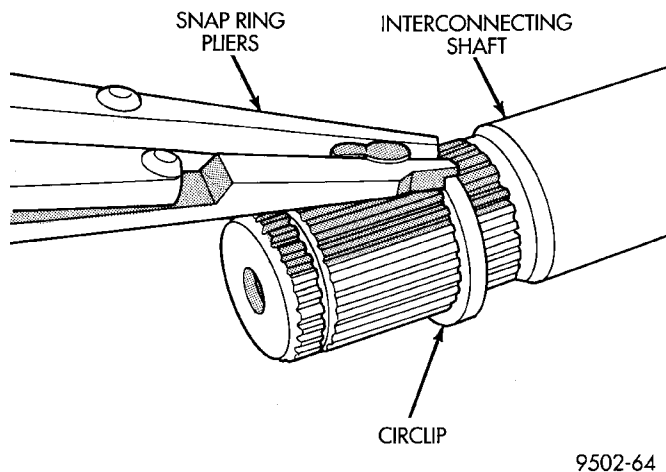

Fig. 46 Circlip Removal from Interconnecting Shaft
(5) Remove large circlip (Fig. 46) from the interconnecting shaft before attempting to remove outer C/V joint sealing boot.